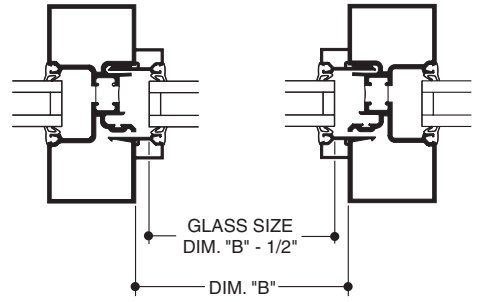

FIGURE 2
2. See (Figure 2) for transom area glass size.